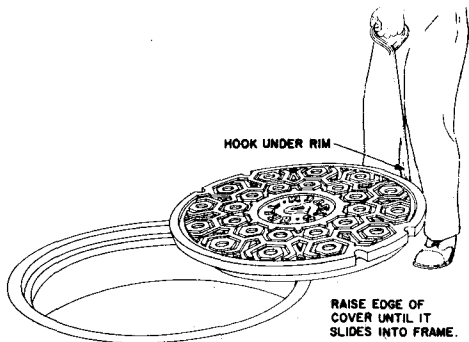

Fig. 40—Preparing to Slide Cover Onto Seat
- (3) Change to the opposite side and repeat steps (1) and (2) until the cover rests partially over the opening of the manhole.
- (4) Place the hook under the rim of the cover at the point farthest from the opening and lift until the cover slides onto its seat (Fig. 40).